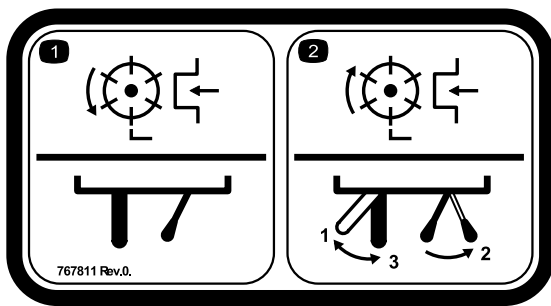

Figure 38
6. Set the rotary valve at the rear of the machine to REVERSE; refer to Figure 38.
7. Operate the tractor PTO switch/lever to the OFF position (Figure 38) and switch off the tractor engine when the grinding action has stopped.